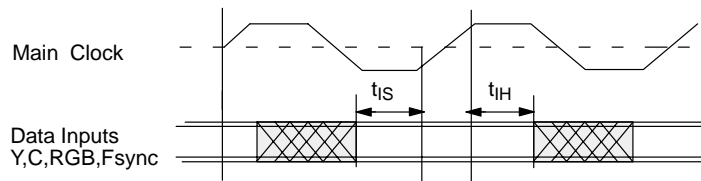

Fig. 4–17: Picture bus input timing
4.6.6. 20.25 MHz Main Clock Input, internally AC coupled (see Fig. 4–18)